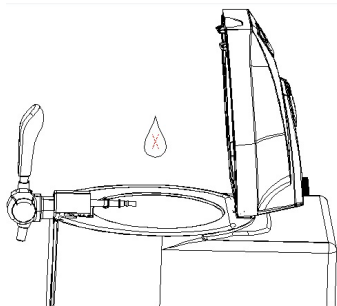
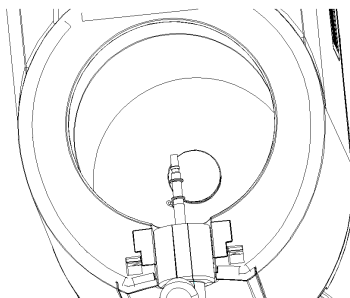

Figure 3
Figure 4
- Cooling cavity of beer cooler cannot put into water (as shown in figure 3). Use dry clothes to clean the water in-and-out cavity surface (as shown in figure 4). Make sure that there is nothing in the cooling cavity, or it will effect the weight sensor.